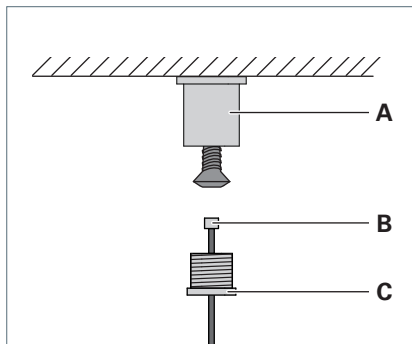

Fig. 2: Mounting ceiling fixture.
- ▶ Screw the sleeve **A** to the ceiling using a suitable screw, see Fig. 2.